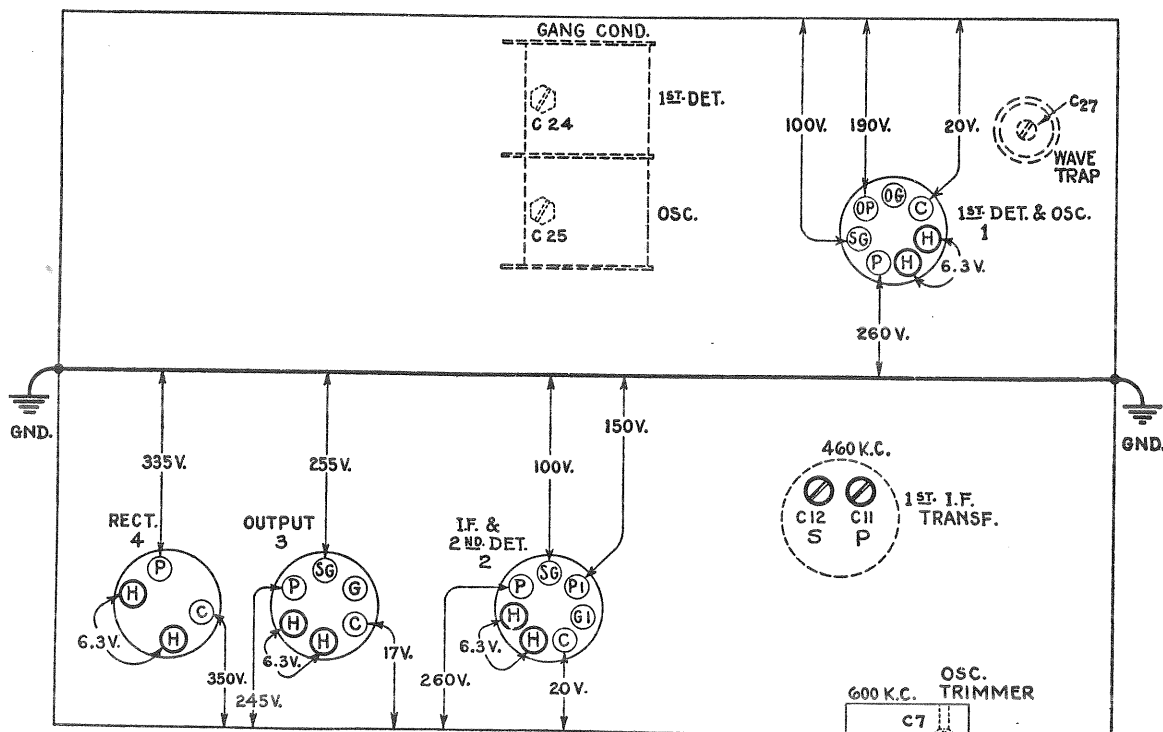

Figure 3—Trimmer Locations and Radiotron Socket Voltages to Chassis Measured at 120 volts A-C Supply—No Signal — Volume Control Maximum
Five aligning trimmers are provided, the physical locations of which are indicated on Figure 3. These trimmers are accurately adjusted during manufacturing tests and should remain in proper alignment indefinitely unless affected by abnormal conditions of temperature or humidity, or unless they have been altered for service purposes. Loss of sensitivity, improper tone quality and poor selectivity usually indicate necessity for re-alignment.
- (1) **Intermediate Frequency Amplifier**—The first i-f transformer has two trimmers identified as C-11 and C-12 on the diagram, Figure 3. Each must be tuned to 460 kc. by feeding a signal of this frequency from the Full Range Oscillator into the RCA-6A7 control grid and chassis-ground and adjusting both trimmers to the point giving maximum output. The oscillator output and the receiver volume control should be regulated so as to produce a sensitive indication on the receiver output indicator. If interference is noticed from strong local stations during these adjustments, the station selector should be tuned to a point at which they will be subdued.
- (2) **Detector and Oscillator**—A total of three adjustments are necessary on the detector and oscillator coil systems. Two of these are to be made at 1720 kc. and the other at 600 kc. The 1720 kc. trimmers are mounted on the variable tuning condenser and are accessible from the top of the chassis. The 600 kc. trimmer, which is associated with the oscillator system, is located on the rear apron of the chassis as shown by Figure 3. To align these
The voltage values indicated from socket contacts to chassis-ground on Figure 3 will serve to assist in locating causes for faulty operation when such a condition develops. Each value as specified may be expected to hold within $\pm 20\%$ when the supply voltage is normal. Variations in excess of this limit will usually be indicative of trouble in the receiver circuits. Voltages given are actual operating values and do not allow for